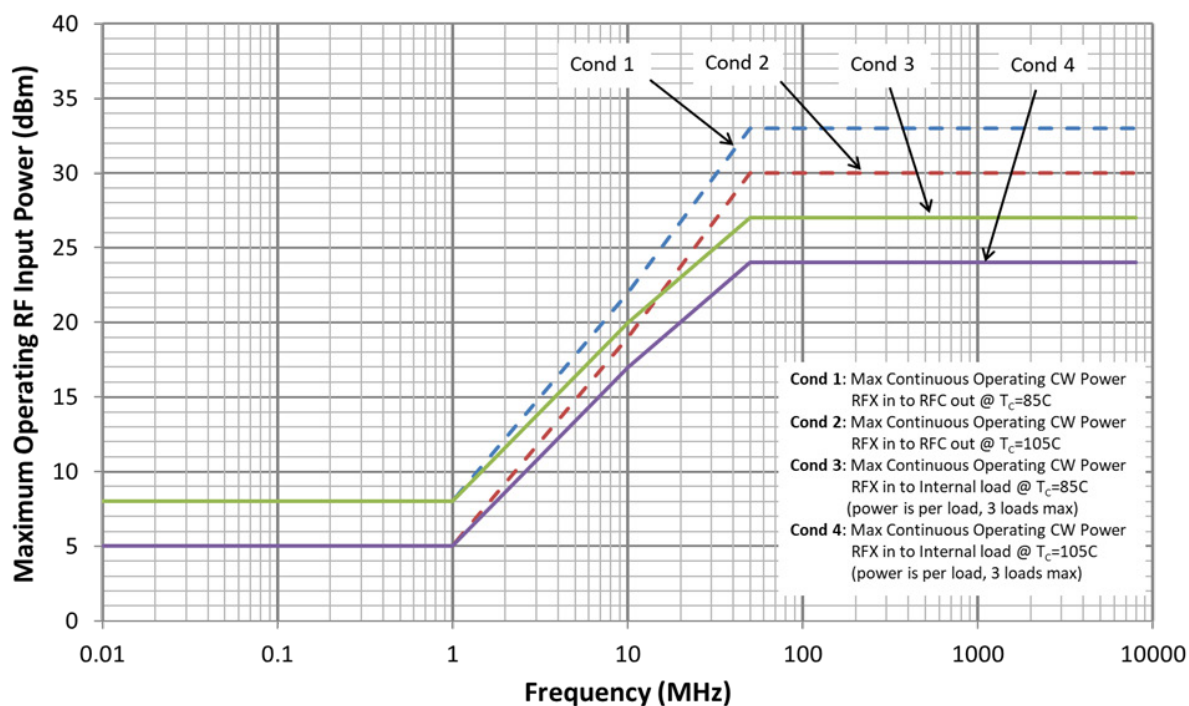

Figure 1. Maximum RF Input Power vs. RF Frequency
- Levels based on $T_C \leq 85$ °C. See Figure 1 power derating curve for higher case temperatures.
3. The input 0.1dB compression point is a linearity figure of merit. Refer to Absolute Maximum Ratings section for the maximum RF input power and Figure 1 for maximum operating RF input power.